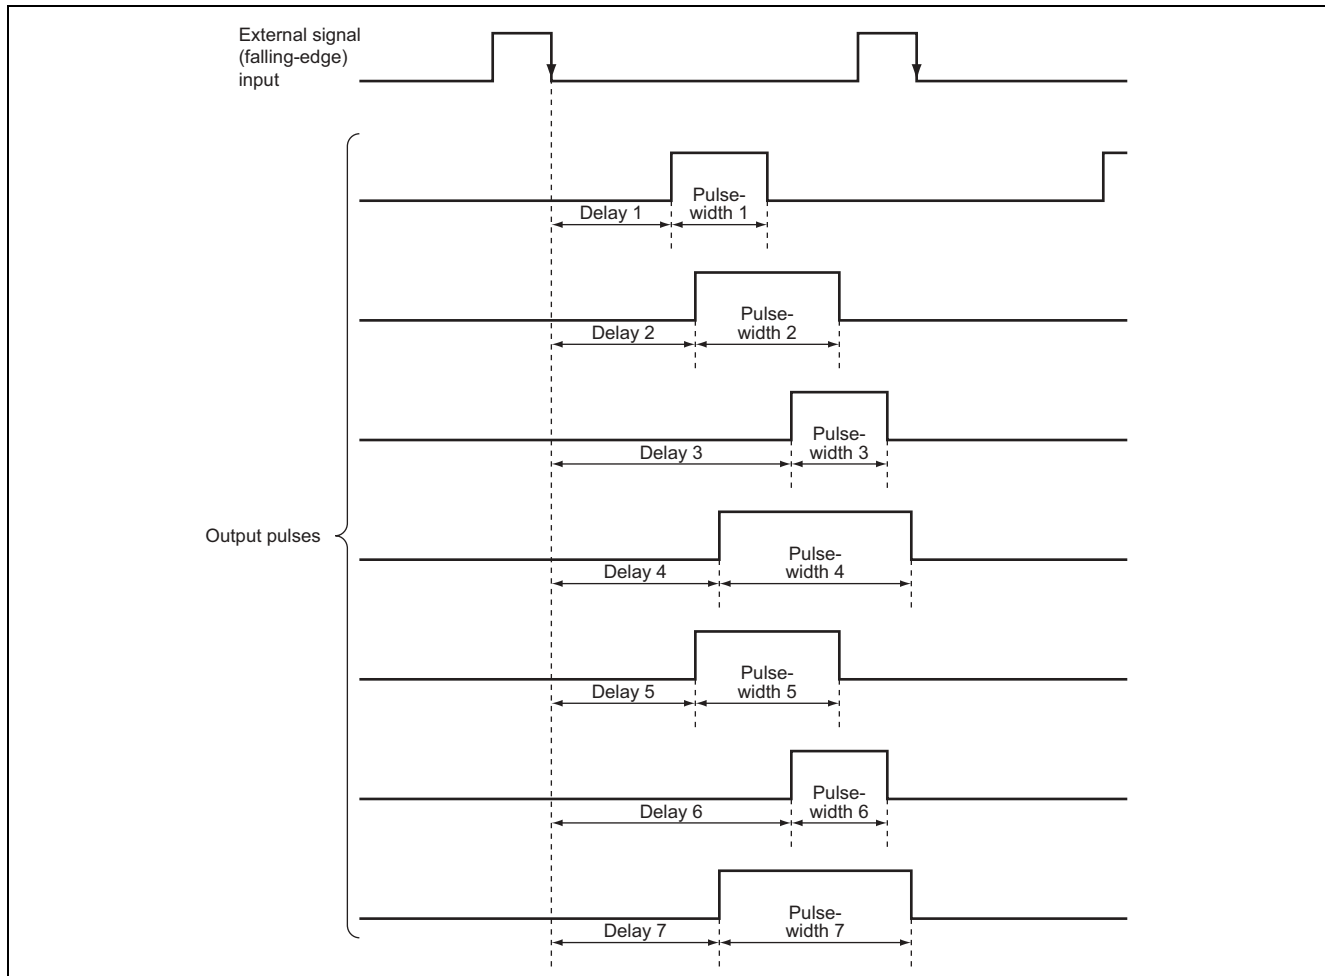

Figure 1 Example of Synchronized Pulse Output
- (1) Seven pulse signals synchronized by the falling edge of an external signal are output with individual timing, as is shown in figure 1.
- (2) The delay times from the falling edge of the external signal and pulse widths can be varied within these ranges: